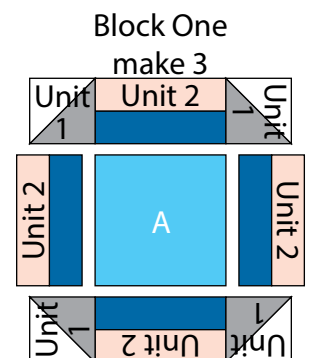

Fig. 9
7. Sew (1) Unit 1 square to each end of (1) Unit 2 strip to make the top row. Repeat to make the bottom row. Sew (1) Unit 2 strip to each side of (1) $6\frac{1}{2}''$ Fabric A square to make the middle row. Sew the (3) rows together lengthwise to make (1) $12\frac{1}{2}''$ Block One square (Fig. 9). Repeat to make (3) Block One squares total.